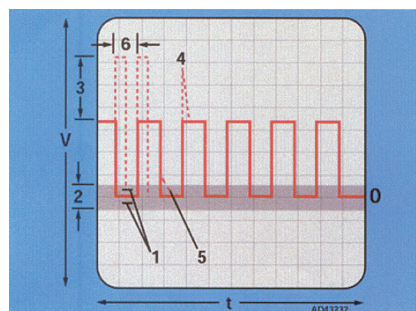
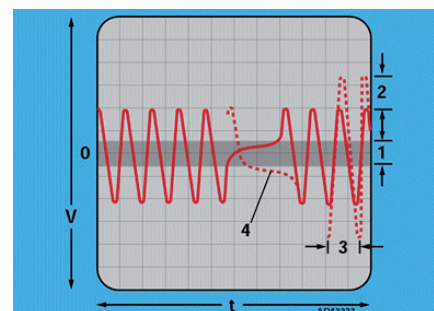

Fig 22 - Digital wave form
Fig 23 - Analogue wave form
Typical wave forms indicate the approximate position of the wave form in relationship to the 'zero grid', but this may vary *Fig 22 [1]*, dependent on the system being tested and may be positioned anywhere within the approximate 'zero range' *Fig 22 [2]* & *Fig 23 [1]*.
- The amplitude or overall height of the pattern (the voltage) *Fig 22 [3]* & *Fig 23 [1][2]*, will depend on the circuit's operating voltage.
- For direct current (DC) circuits this will depend on the voltage being switched, for example, idle speed control device voltage will be constant and will not vary with engine speed.
- Some circuits operating solenoid components, for example idle speed control devices, may display voltage spikes *Fig 22 [4]*, when the circuit is switched off. This voltage is generated by the component and can normally be ignored.
- Some circuits that have a square wave type of typical wave form may display the voltage decaying at the end of the switching period *Fig 22 [5]*. This is a characteristic of some systems and can normally be ignored, as it does not by itself indicate a fault.
- In direct current (DC) circuits the time scale will be dependant on the speed at which the circuit is switched *Fig 22 [6]*, for example, the frequency of an idle speed control device will vary with engine load.
- In alternating current (ac) circuits the time scale will depend on the speed of the signal generator *Fig 23 [3]*, for example, an inductive crankshaft position (CKP) sensor's frequency will increase with engine speed.
- If the pattern is reversed *Fig 23 [4]*, this indicates that the system being tested has its component connected in the opposite polarity to the typical wave form shown and can normally be ignored as it does not by itself indicate a fault.